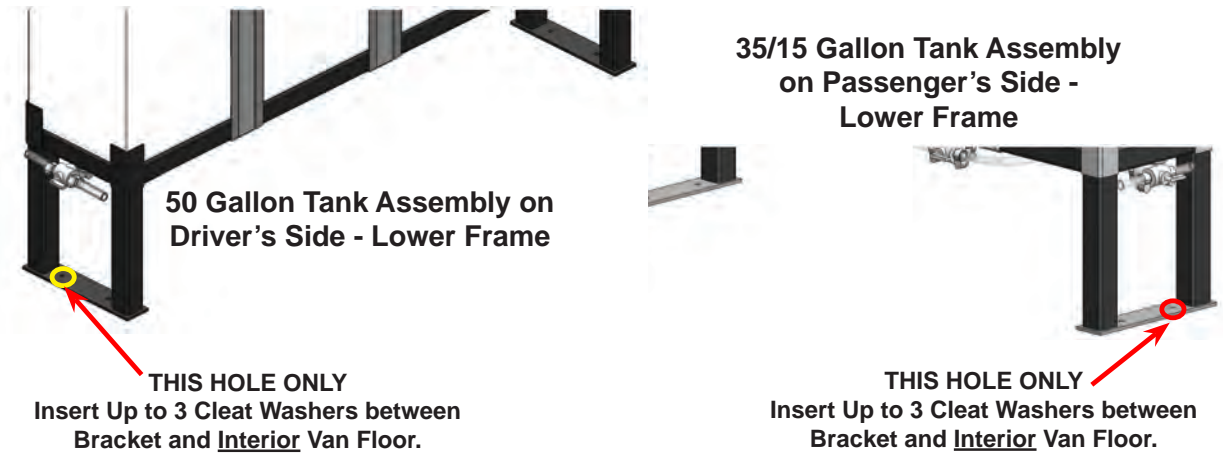

Figure 69. Lower Part of Frames - Securing Tank Assemblies to Van Floor
3. Insert up to 3 cleat washers between the frame's bracket and the interior of the van floor at each outermost hole at the rear of the van (see Figure 69). These cleat washers act as shims to level the frame's legs. You may not need all 3 cleats.